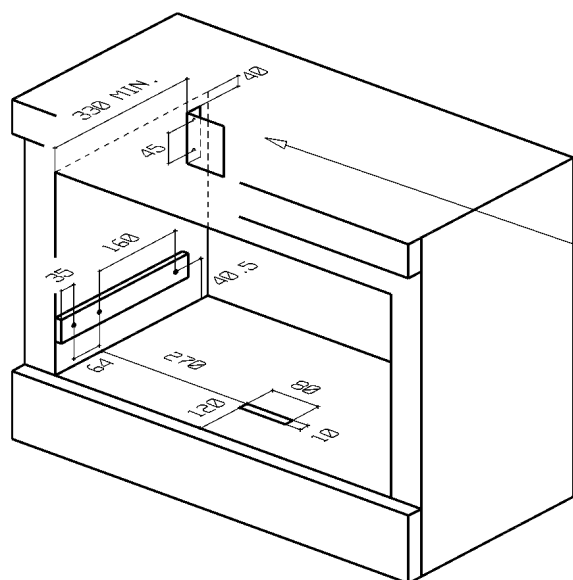
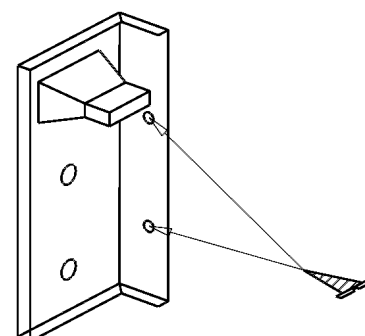
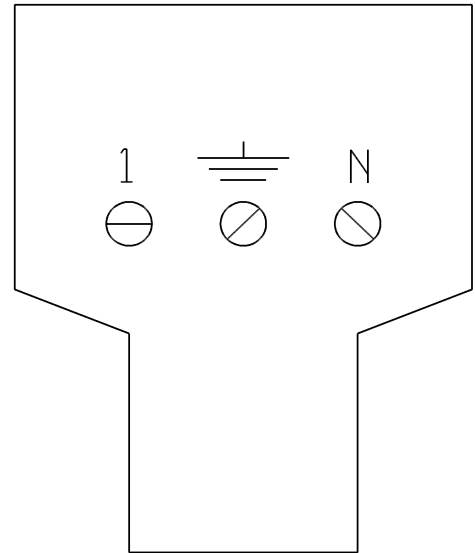

Fig. 2
Fig. 3
Fig. 9
- Fasten the telescopic runner supports (RH and LH) using three wood screws (fig.2) and taking care to follow the measurements shown in fig.2.
- Make a slot in the bottom of the open compartment following the measurements given in fig.2.
- Fasten the power supply unit (fig.3) to the back of the appliance in the top left-hand corner using two wood screws as shown in fig.2.
- Connect the power cable supplied to the connector on the back of the appliance, plug the connector into the power supply unit on the back of the post (fig.3) where you will find the terminal board (fig.9) set to operate at a supply voltage of 230V monophasic.